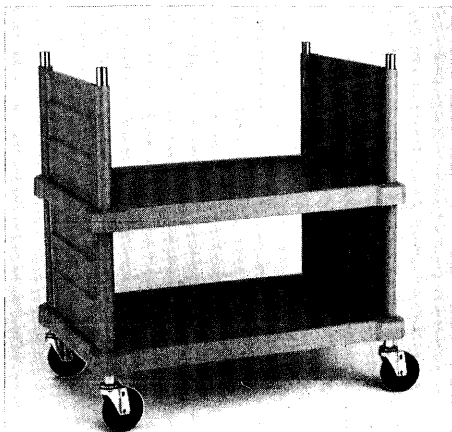

Fig. 10
12. If end panels are being used, install in the same manner as step #8 (Fig. 10).